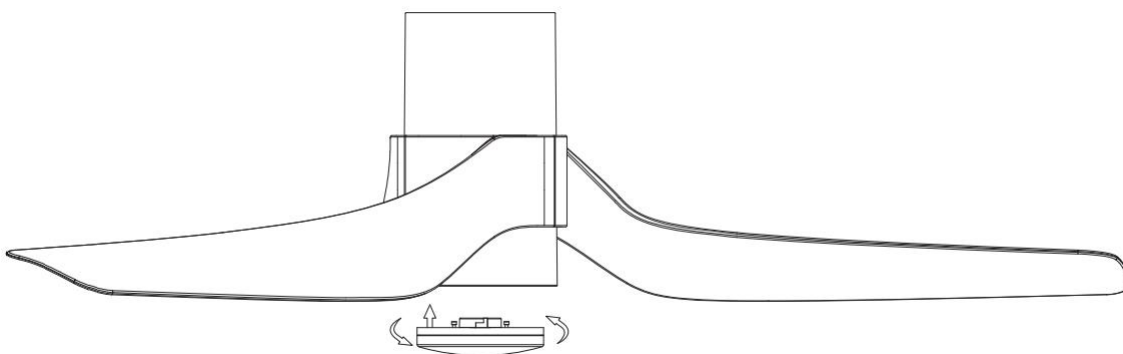

Fig. 9
4. Install the lamp on the fan assembly then secure it by turning clockwise. (Fig. 9)